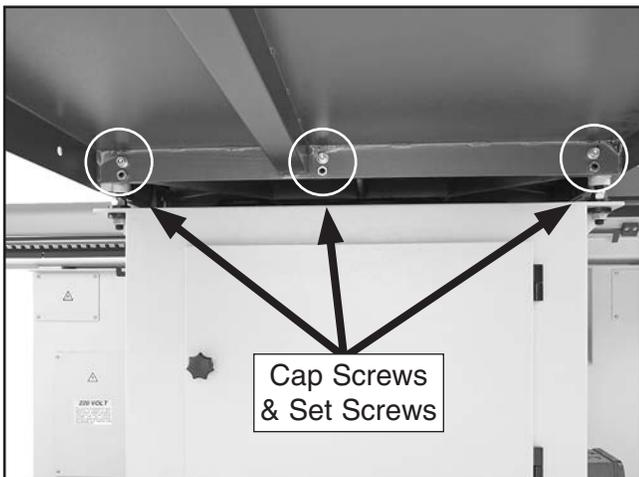

Figure 28. Rear extension wing attached.
26. With the help of two other people to hold the rear extension wing, attach it to the cast iron table with (3) M10-1.5 x 25 cap screws, 10mm lock washers, and 10mm flat washers, as shown in **Figure 28**.